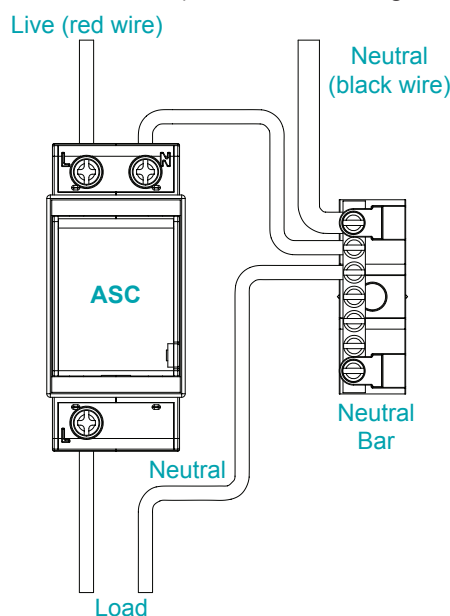

Figure 2: Distribution Board wiring
4. Connect the ASC according to Figure 2 or 3. Observe markings for line and load terminals.